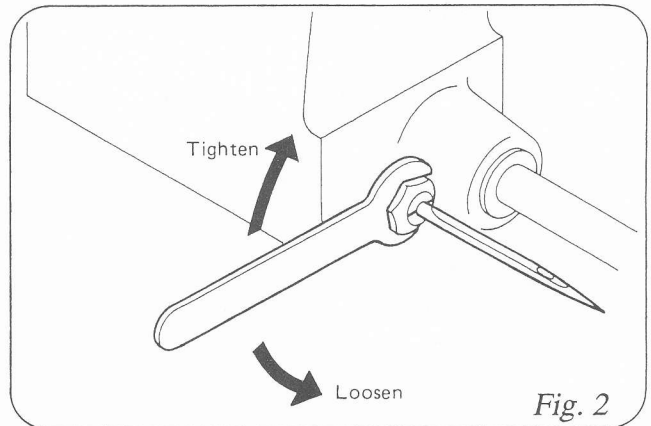

Fig. 2
2.Needle Setting (Fig.2, 3, 4)